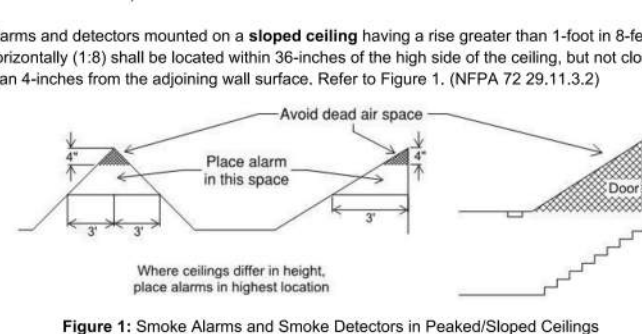

Figure 1: Smoke Alarms and Smoke Detectors in Peaked/Sloped Ceilings
- Alarms and detectors in a peaked ceiling must be within 3 feet horizontally and no closer than 4 inches vertically to the peak. Avoid placing alarms in dead air spaces; refer to Figure 1. (NFPA 72 29.11.3.1)
- Alarms and detectors mounted on a sloped ceiling having a rise greater than 1-foot in 8-feet horizontally (1/8) shall be located within 36-inches of the high side of the ceiling, but not closer than 4-inches from the adjoining wall surface. Refer to Figure 1. (NFPA 72 29.11.3.2)
- Where stairs lead to other occupiable levels, alarms and detectors shall be located so that smoke rising in the stairway cannot be prevented from reaching the alarm or detector by an intervening door or obstruction. For stairways leading up from a basement, alarms and detectors shall be located on the basement ceiling near the entry to the stairs. Refer to Figure 1. (NFPA 72 29.11.3.4 (10), (11))
- Alarms and detectors installed in rooms with joists or beams shall comply with NFPA 72 17.2.3.2.4 and 17.6.3. (NFPA 72 29.11.3.4 (3), (4))